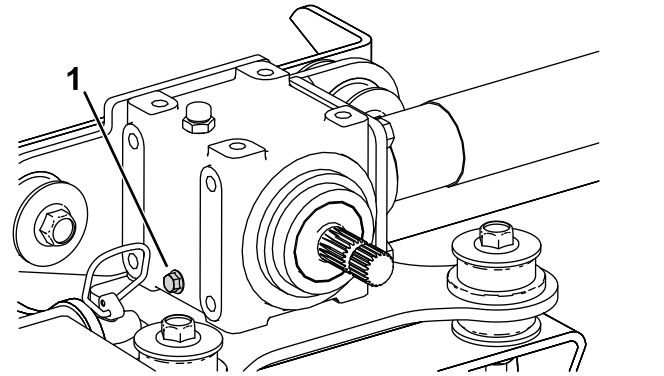

Figure 25
2. Place a pan beneath the drain plug on the gearbox (Figure 25).
3. Remove the drain plug on the lower left side of the gearbox and drain the fluid (Figure 25).